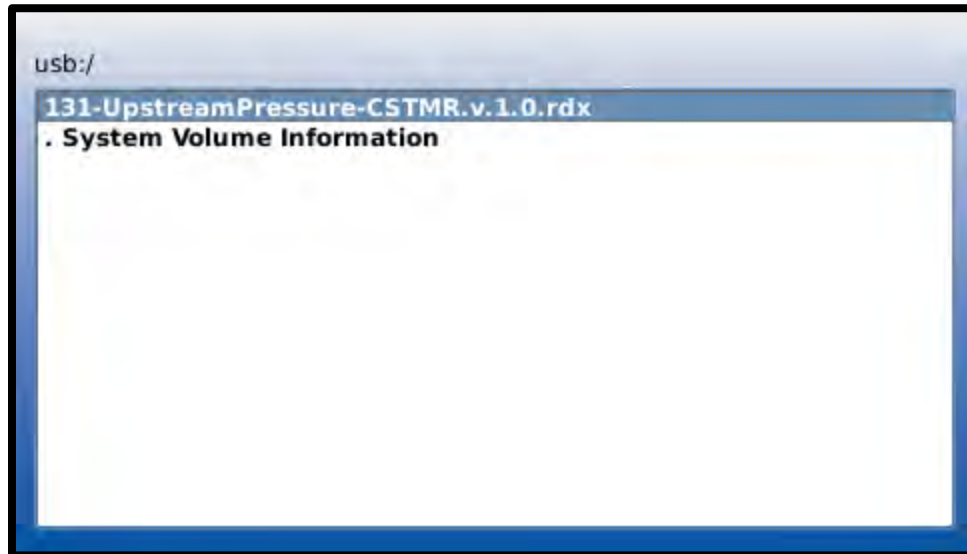

Figure 5.6
- c. Press “right” to load the ValvApp from the USB thumb drive. Wait for the next screen and highlight the custom ValvApp (131-UpstreamPressure-CSTMR.v.1.0 used for example) as shown in **FIGURE 5.6**. Press “OK”.